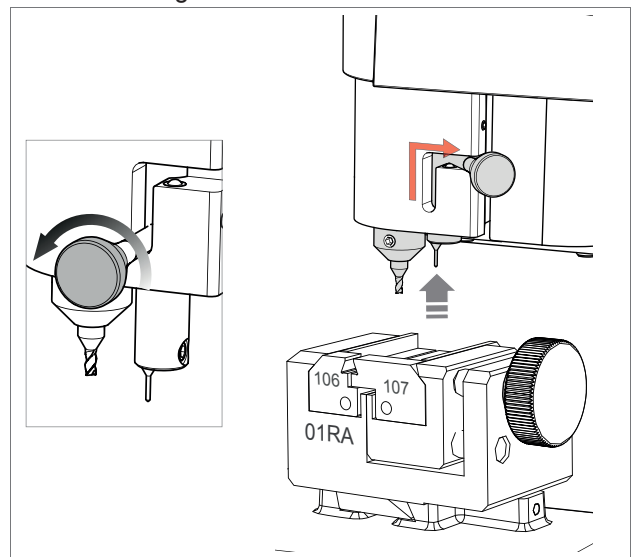

Fig. 50
- **EXCLUDING THE TRACER 07T (Fig. 50)**
**NOTE: for cutting and/or decoding operations with the tracer point 06T, the tracer 07T must be in the idle position (Fig. 50). REPLACE THE 06T TRACER WITH THE REQUIRED CUTTER PRIOR TO ATTEMPTING TO CUT A KEY.**